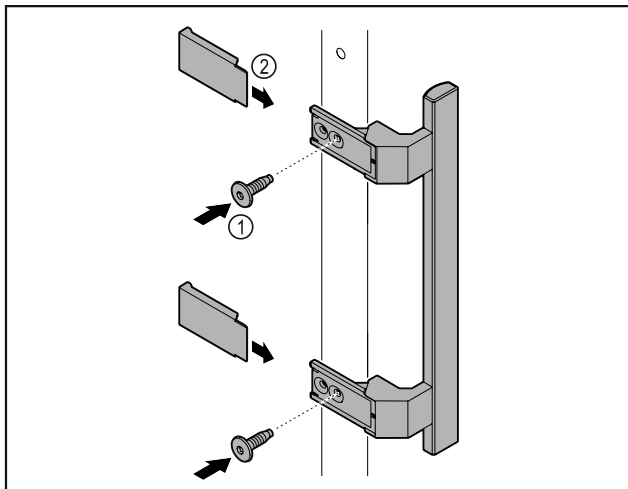

Fig. 9
- ▶ Attach handle from accessory kit to the door using supplied screws Fig. 9 (1).
- ▶ Put on cover Fig. 9 (2).